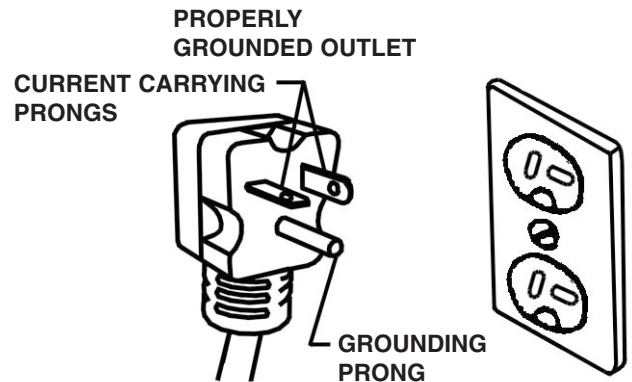

FIGURE 1
**WARNING:** THIS CABINET SAW CAME PRE-WIRED FOR 220V OPERATION AND MUST BE CONNECTED TO AN APPROPRIATELY GROUNDED 220V OUTLET AS SHOWN IN FIG.1.